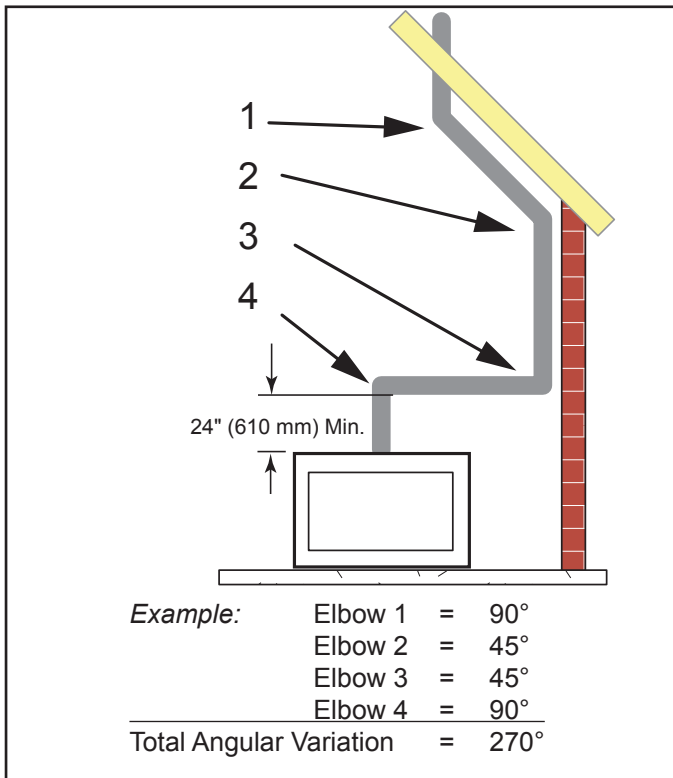

Figure 5.13 Maximum Elbow Usage
- Two sets of 45°elbows offsets may be used within the vertical sections. From 0 to a maximum of 8' (2.5 m) of vent pipe can be used between elbows. See Figure 5.13.
- The maximum angular variation allowed in the system is 270°. See Figure 5.13.